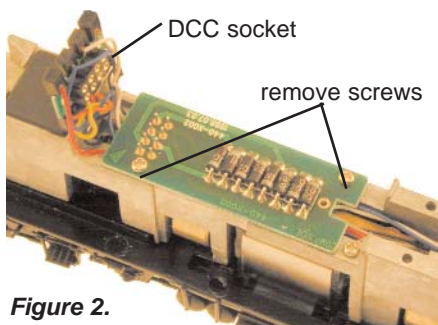

Figure 2.
2. Unplug the the manufacturer's DCC socket from the pins on the factory board. Remove the two screws that hold the board in place. (*Figure 2*) Lift out the factory board and save the two screws for future use.